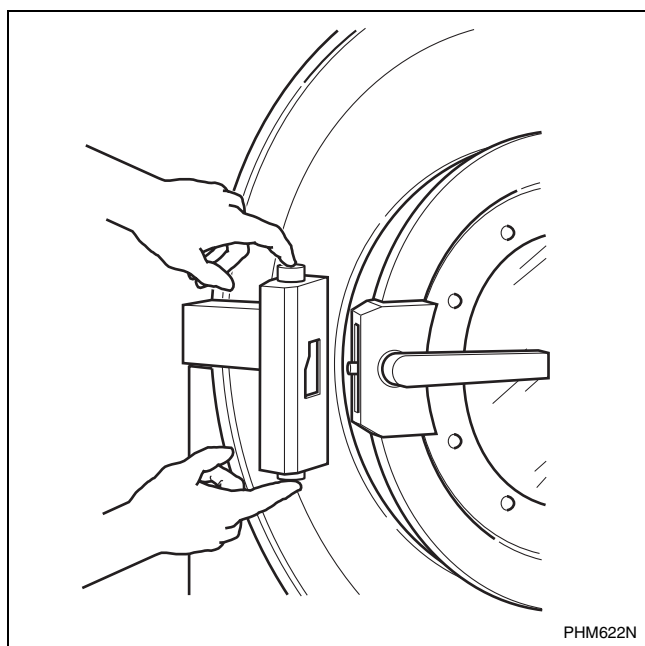

Figure 11
2. While holding the door unlock button, press the jog operation button located on the bottom of the door box. Refer to *Figure 11*.